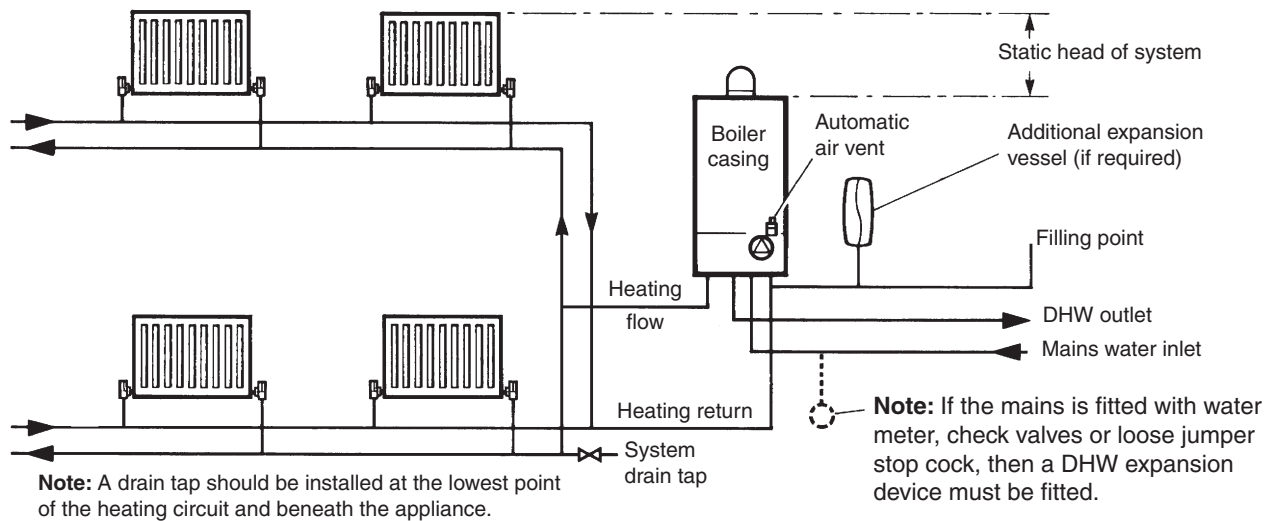

Fig. 3.5
3.7 CENTRAL HEATING SYSTEM - Fig. 3.5
System volume - The expansion vessel incorporated into the boiler is suitable for a sealed heating system with a maximum water content of 80 litres (18 gal). Above 80 litres, consideration should be given to fitting an additional expansion vessel fitted in the position shown in Fig. 3.5. To check correct operation of the expansion vessel(s) the system pressure should not be more than 2.5 bar when the system is at maximum operating temperature (for further guidance refer to BS 7074:1).
The system design pressure (cold) should be set to 1.0 bar. This pressure is equivalent to a static head (see Fig. 3.5) of 10.2 metres of water.